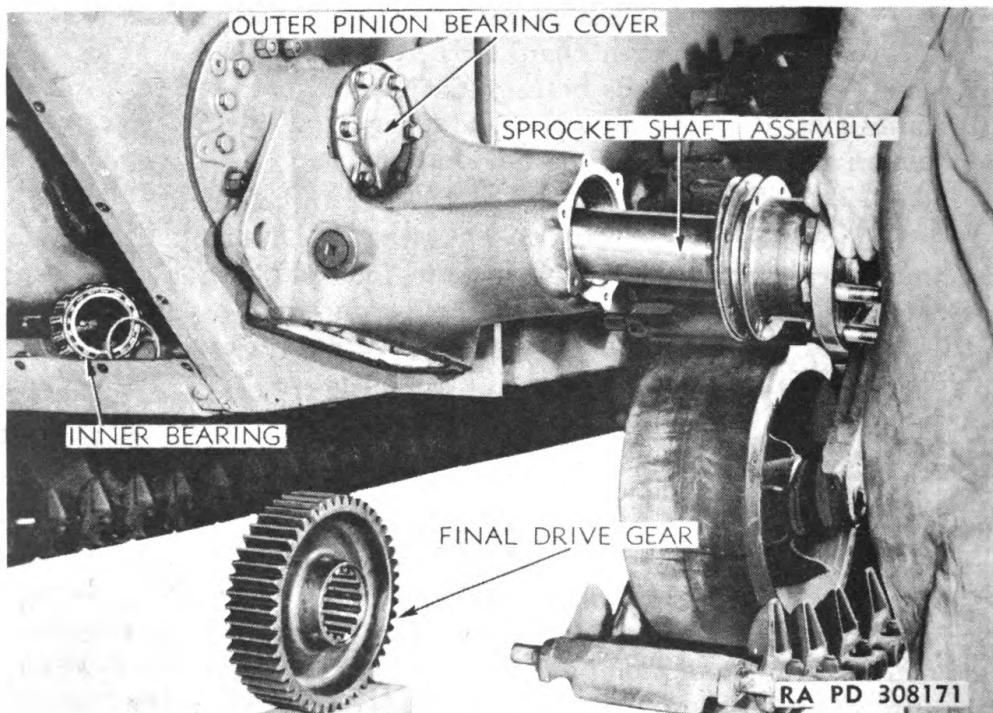

Figure 69—Removing Sprocket Shaft
(2) **REMOVE PINION SHAFT ASSEMBLY.** Remove outer pinion bearing cover and shims by removing six cap screws (fig. 69). Install shaft puller assembly in tapped hole in end of pinion shaft in the same way as when pulling sprocket shaft, and pull outer pinion bearing, pinion, and shaft from case. Operate sliding ram with light strokes to prevent breaking snap ring in inner splines of pinion at end of pinion shaft. Remove inner bearing cup in same manner as inner sprocket shaft bearing cup with push-puller and bearing cup puller (fig. 41). Press or pull bearings from pinion.